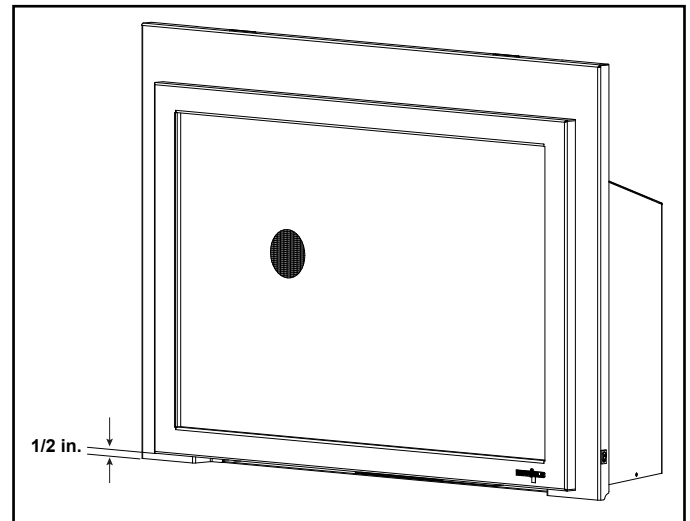

Figure 8.4 Minimum Required 1/2 in. Gap
- 1/2 inch gap under the bottom of the front must be maintained. See Figure 8.4.